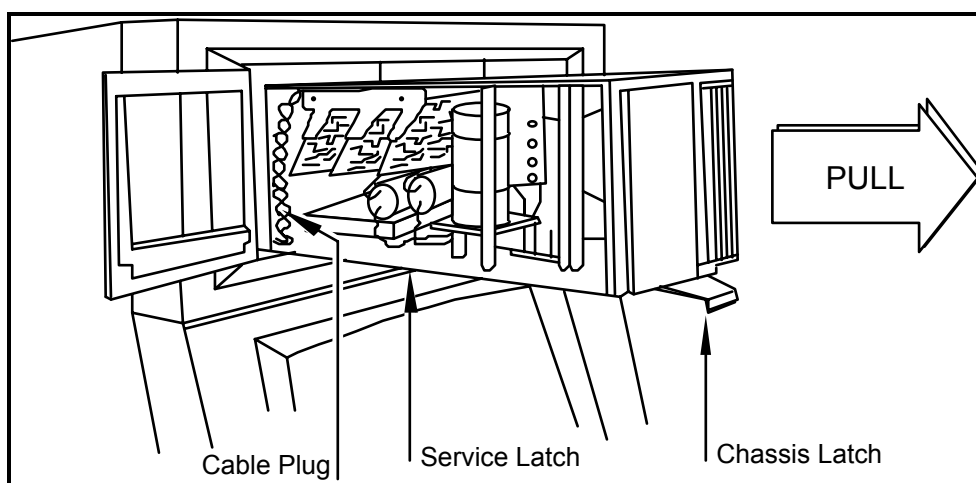

Figure 20-1 — Trend Pen Recorder
Clean the recorder face glass with glass cleaner and a soft lint-free cloth. With the front door to the recorder open, grasp the chassis latch (see Figure 20-1) and pull the chassis straight out. Carefully clean the vertical scales with detergent and a cotton-tipped swab or soft cloth.
1. Remove the rear cover from the recorders by loosening four captive screws and sliding the cover straight off the console. Set the switch on the power supply to "0" (off). With the front door open, remove the recorder chassis by pulling straight out on the chassis latch (see Figure 20-1) until the stop is reached. Support the unit with one hand, press the service latch, and withdraw the unit the rest of the way from the console. Disconnect the cable connector to free the unit.